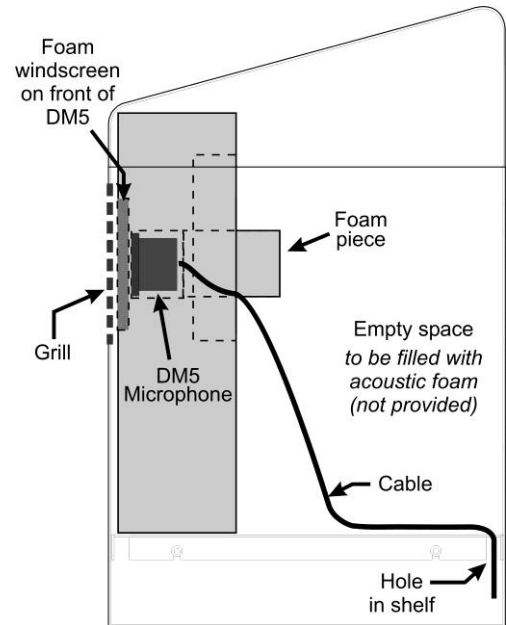

Figure 3. DM5 Microphone unit in typical speaker post installation
- Place the foam windscreen in front of the microphone, positioning it so it will cover the inside of the speaker grill as shown in Figure 3.
- Place the microphone, in its foam enclosure, into the upper compartment of the speaker post, so the front of the foam windscreen is **flush against the metal**, centered on the grill, as shown in Figure 3.